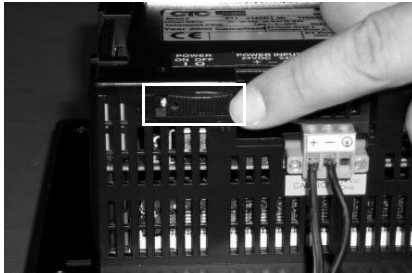

Figure 2-8: Turning On MotionPanel
11. Turn on the MotionPanel, as shown in Figure 2-8.